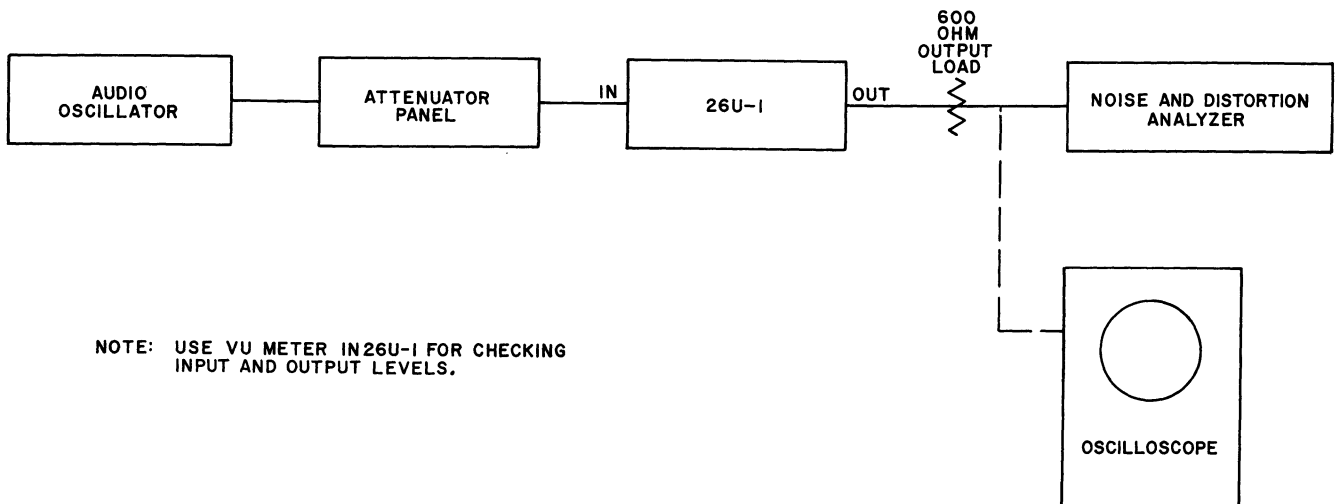

Figure 5-1. Test Setup, Block Diagram
d. Connect the audio oscillator to the input of the 26U-1 through the Daven attenuator panel with at least 10 db attenuation inserted. (See test setup, figure 5-1.)